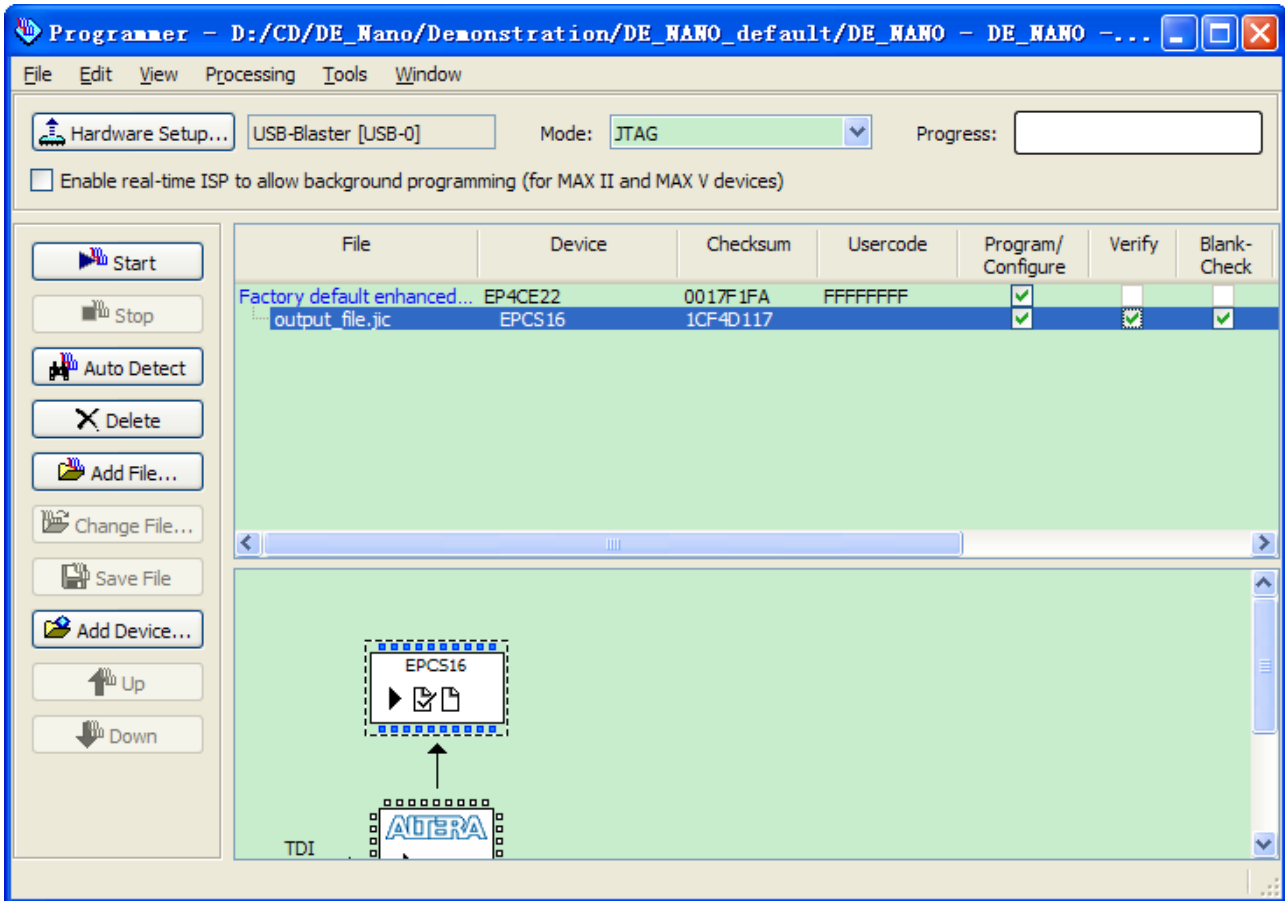

Figure A6. Quartus II programmer window with one JIC file
2. Program the serial configuration device by checking the corresponding **Program/Configure** box, a Factory default SFL image will be load (See Figure A6).